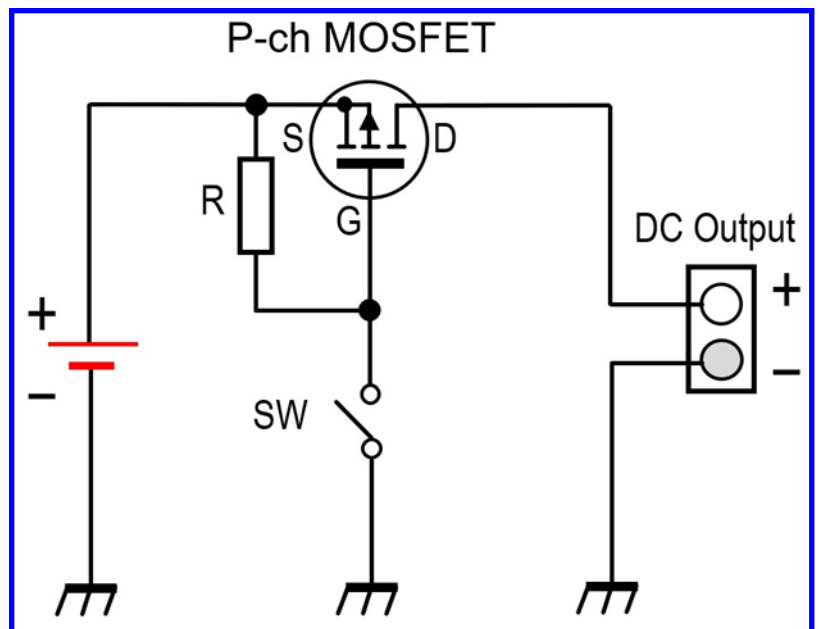

Figure 4. Principle diagram of switch using P-channel MOSFET
(4) Specific example of VGS vs. RDS
Figure 4 shows the principle of turning the P-channel MOSFET ON or OFF with the gate voltage. When the SW is ON (switch is closed), the gate is connected to ground through the switch, so the gate voltage becomes zero. As a result, the drain-source resistance (RDS) becomes low and comes close to conduction. Conversely, when the SW is turned OFF (switch is open), same voltage as the source is applied to the gate through the resistor (R). The P-channel MOSFET is turned OFF and no current flows between the source and drain.